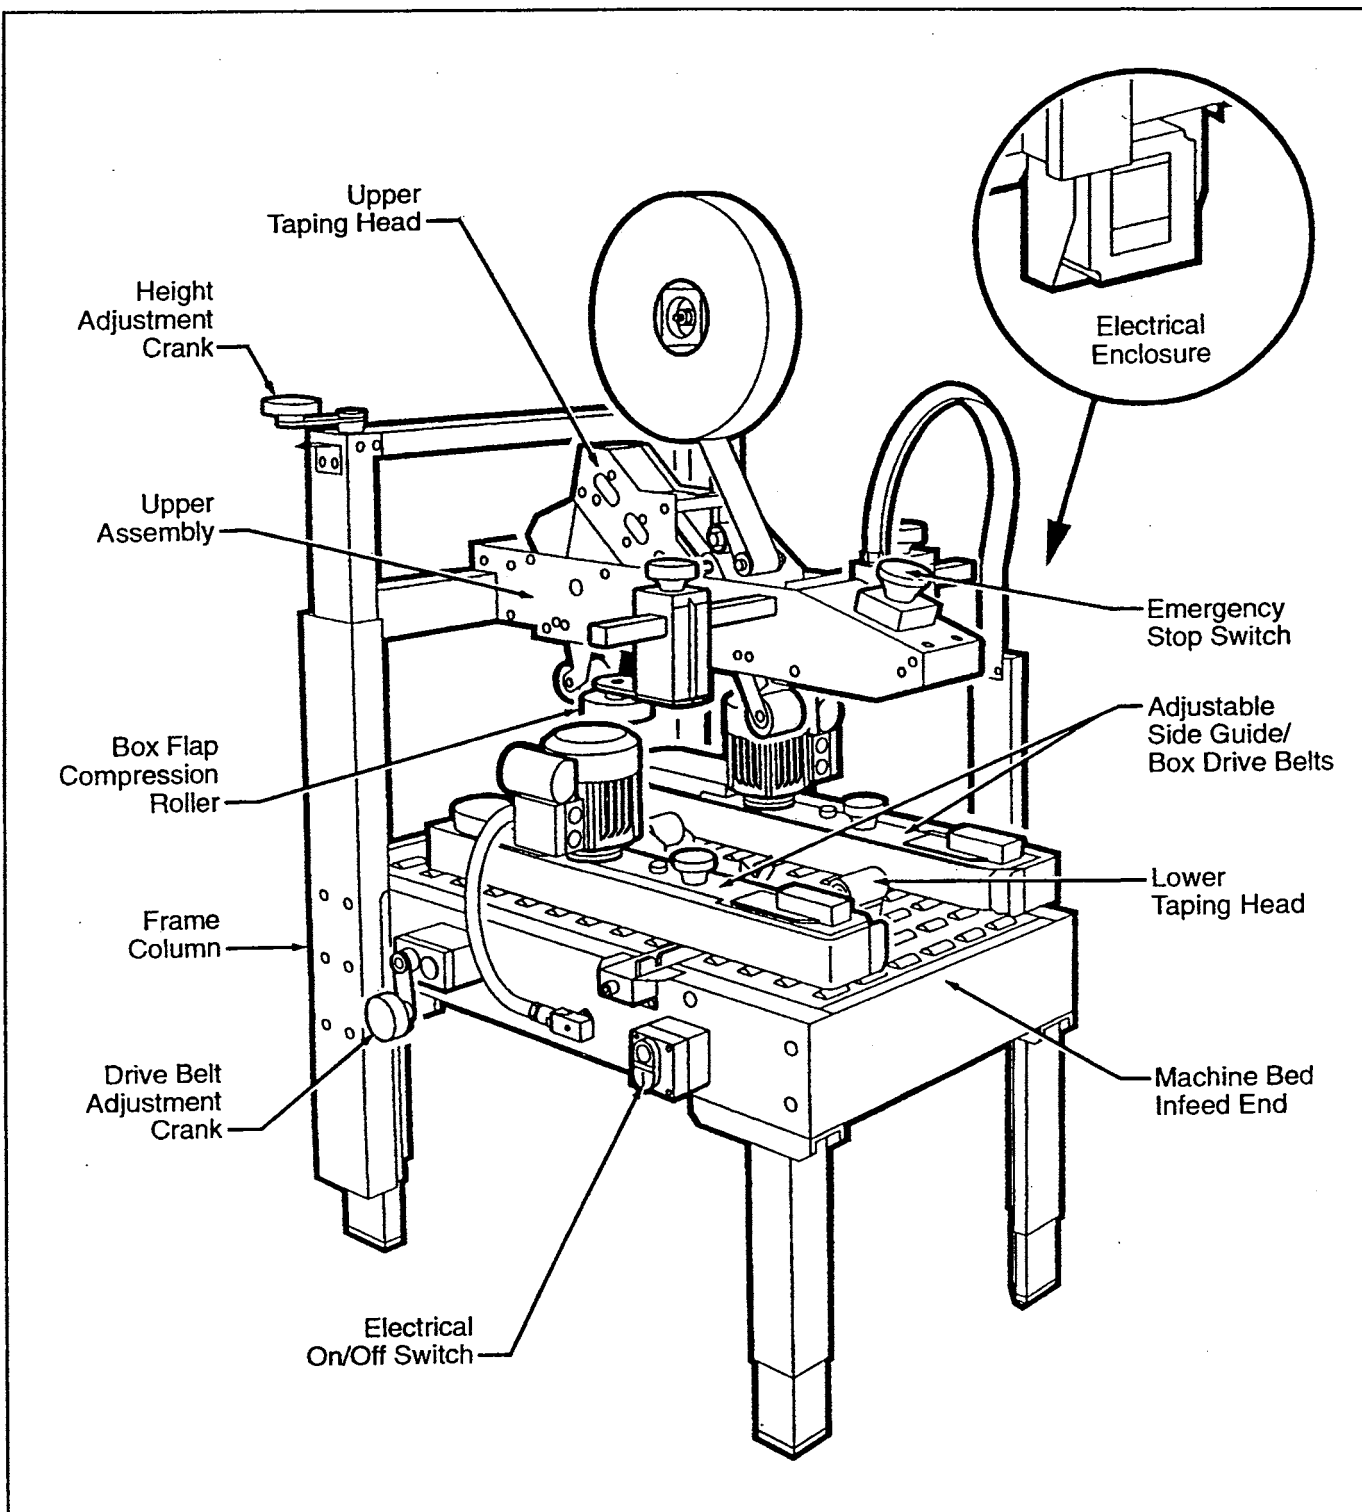

Figure 3-1 – Case Sealer Components
The following instructions are presented in **the order recommended** for setting up and installing the case sealer, as well as **for learning the operating functions and adjustments**. Following them step by step will result in your thorough understanding of the machine and an installation in your production line that best utilizes the many features built into the case sealer. Refer to Figure 3-1, page 15, to identify the various components of the case sealer.
Refer to Figure 3-1 to acquaint yourself with the various components and controls of the case sealer. Also see Figures 3-1 and 3-2 in Section II for taping head components.
### Switches and Controls (Refer to Figure 3-1)
7. Both the upper and lower taping heads utilize extremely sharp tape cut-off knives. The knife is located under the orange knife guard which has the "WARNING – SHARP KNIFE" label. Before loading tape, refer to Figures 3-1 and 3-2 in Section II to identify the knife location. Keep hands out of these areas except as necessary to service the taping heads.